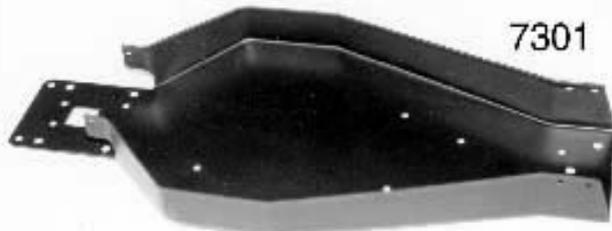

Fig. 26
□ **Fig. 26** Now remove the #7301 truck black hard anodized aluminum chassis from the kit box. **Note:** *If you are familiar with our products you will see that this is a new chassis design using our new aircraft aluminum alloy. The chassis has been engineered to improve the rigidity of the chassis for both front to rear and side to side. It also features improved chassis side roll clearance for rougher tracks.*